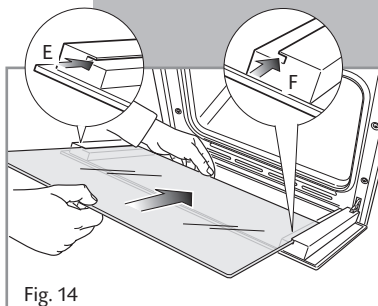
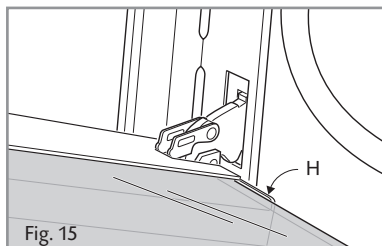

Fig. 14
Fig. 15
- Insert the pane in the left **E** and right **F** slide guides (fig. 14), and gently slide it to the retainers **H** (fig. 15).